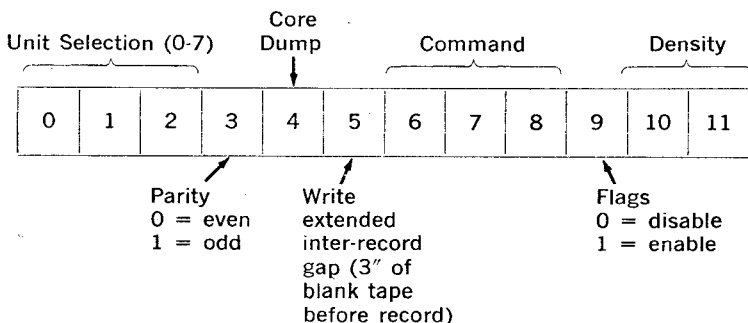

Figure 7-23
- c. Any command (see figure 7-23) which the tape control, although ready, cannot perform; for example:
- (1) WRITE with WRITE LOCK condition
- (2) 9-channel tape and incorrect density
- (3) BOT and SPACE REVERSE